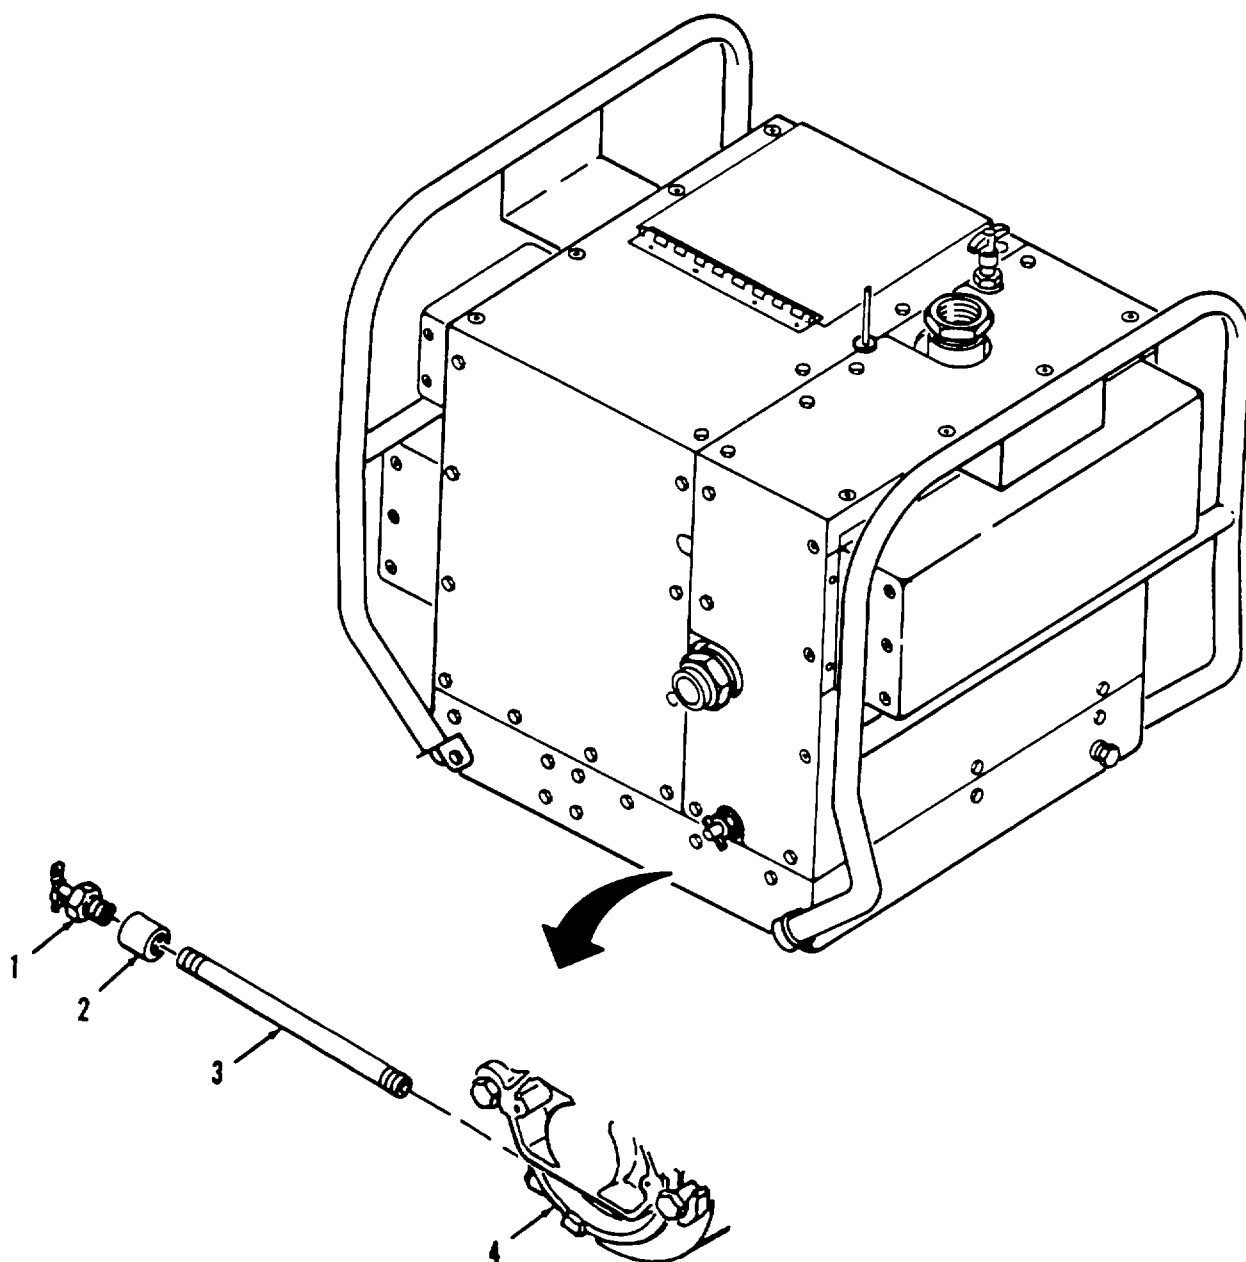

Figure 4-8. Pump Drain Repair and Replacement.
a. Removal. (Refer to Figure 4-8).
- (1) Remove drain cock (1) from unit.
- (2) Remove coupling (2) and nipple (3) from pump (4).